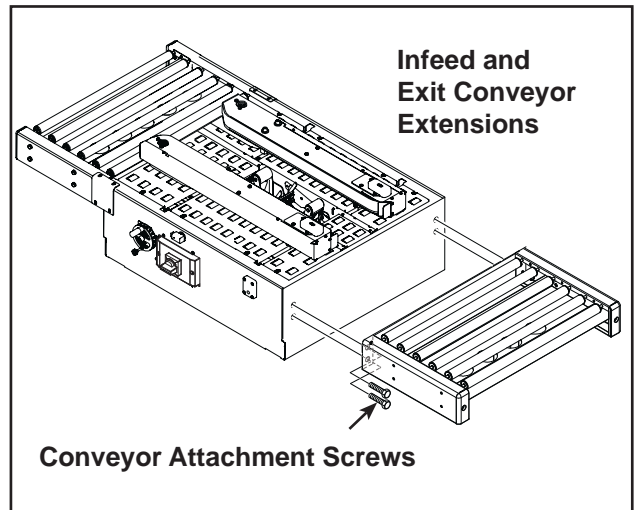

Figure 1 Conveyor Infeed and Exit Extension Installation
2. Verify that the package contains two conveyor brackets, twelve M8 x 16 hex head screws, and eight (8) 8mm plain washers.
3. To attach the conveyor extension, refer to **Figure 1**, and locate four (4) screw holes on the end of the case sealer frame.